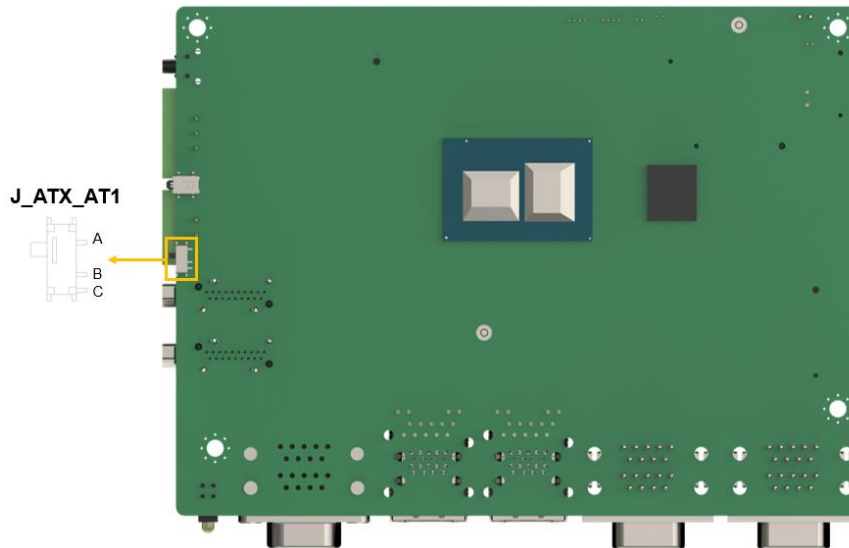

Figure 4-2: AT/ATX Power Mode Switch Locations
- CN Location:** See **Figure 4-2**